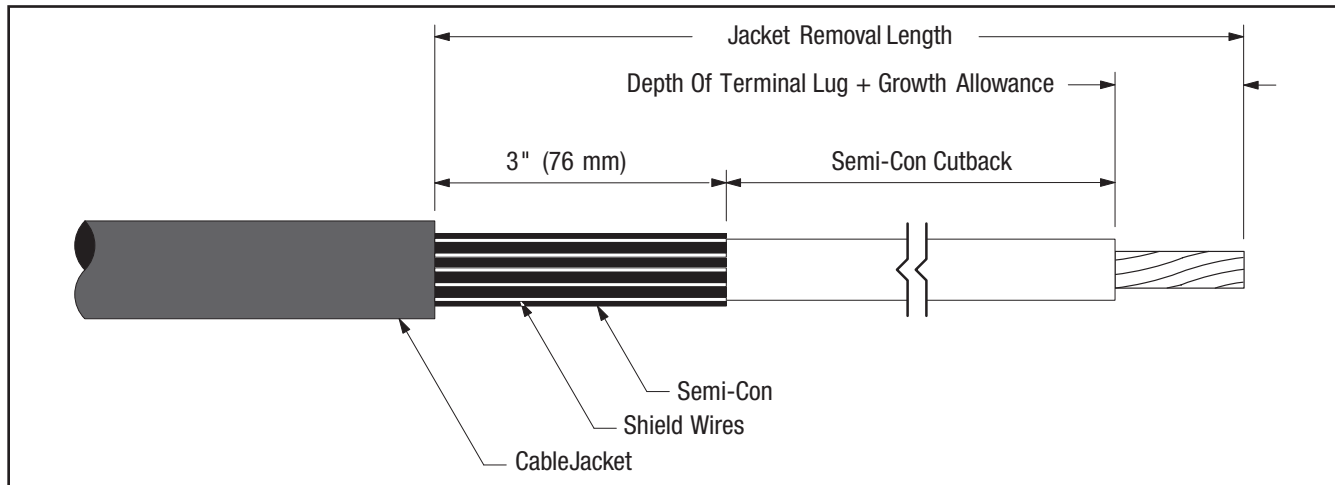

Figure 8
- 7.2 Prepare cable using dimensions shown in Figure 8 and 9. Refer to Table 3 for semi-con cutback dimension. **BE SURE TO ALLOW FOR DEPTH OF TERMINAL LUG.**